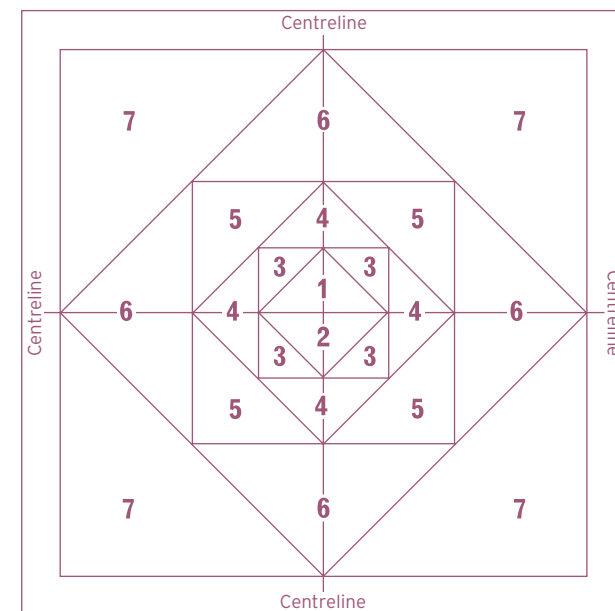

Figure 11 Continue working in larger pyramids
- Repeat this sequence on the opposite side of the centreline shown as area 2 in figure 11. Continue working in larger and larger pyramids, as shown in figure 11, until only the perimeter tiles require fitting.